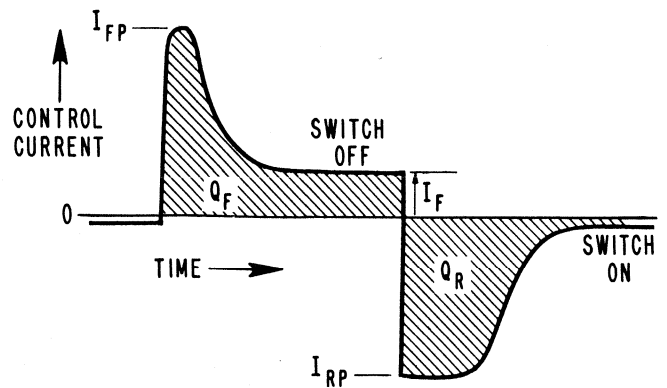

Figure 7. Control Current Pulse Shape for Fast Switching
**Biasing for Fast Switching.** The rise and fall times of the RF envelope shown in Figure 2 depend on the attenuation levels at which the switch is considered to be ON or OFF, on the magnitude of the bias current, and on the bias pulse shape. Faster switching can be obtained by operating at the lowest possible forward bias current consistent with the necessary isolation level. Faster switching may also be obtained by suitable shaping of the bias current waveform as illustrated in Figure 7.